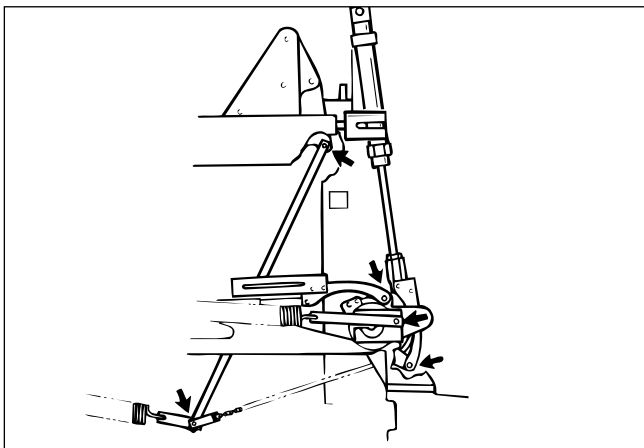

FIGURE 4-3
- Apply grease (see Figure 4-3) to Cam Assembly Connection Pins.